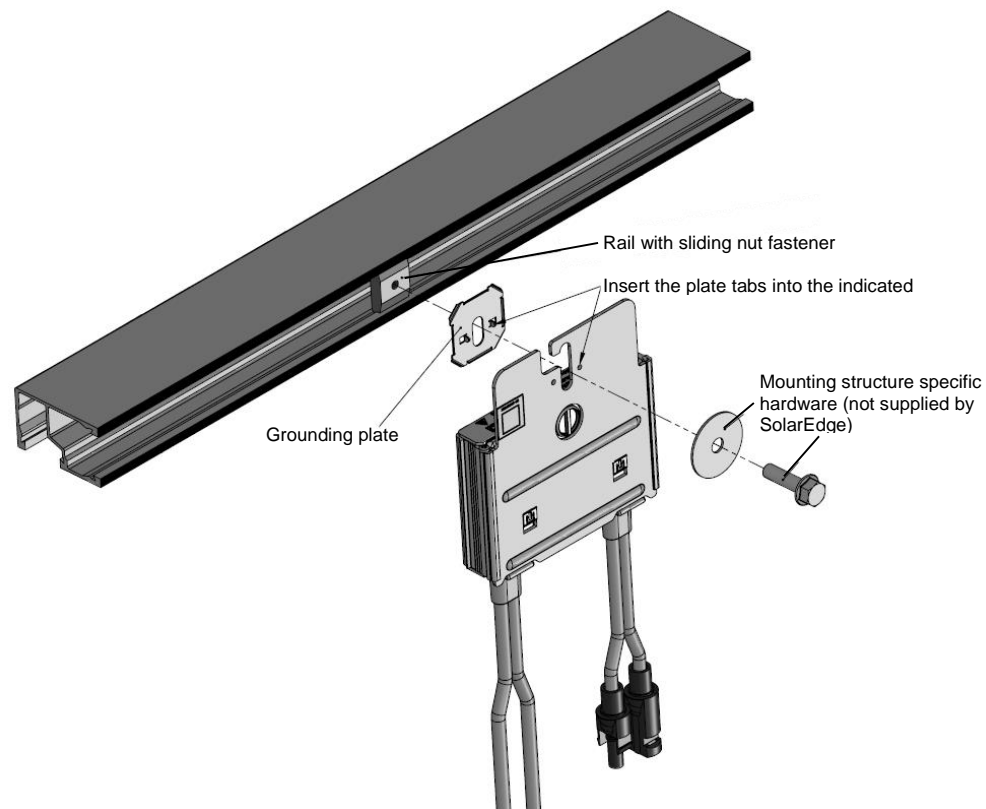

Figure 1: Example of grounding a power optimizer using the grounding plate
- 2 Attach a grounding plate to the power optimizer (see Figure 1): Insert the two plate tabs into the two designated holes in the power optimizer back cover.